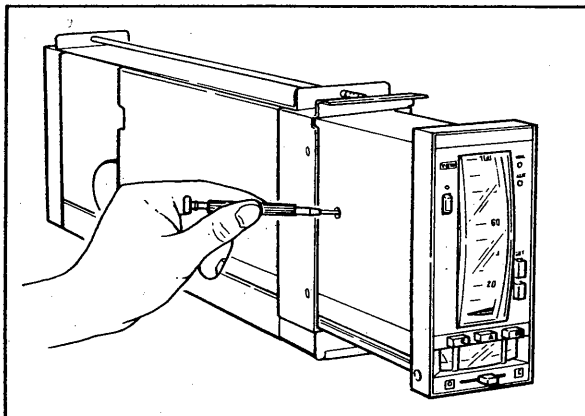

Figure 6-2-1. Zero Adjustment of Measurement Pointer.
- (1) Apply a voltage of 3.0 V DC to process variable input terminals X1 (terminals 1 (+) and 2 (—)) from the DC voltage/current standard.
- (2) Check that the measurement pointer indicates  $50\% \pm 0.5\%$  of the calibration mark on the scale plate.
- (3) If the reading is not in this range, rotate the zero adjustment screw to point to 50%, as shown in Figure 6-2-1.
- (4) Change the input signal to 1.0 V, 2.0 V, 4.0 V, and 5.0 V DC, and check that the readings are at 0%, 25%, 75%, and 100% calibration marks respectively. The tolerance is  $\pm 0.5\%$  of span. Check each calibration mark at the position where line of sight and set point value indicator are horizontal.
- (5) If the tolerance is exceeded in (4), apply 3.0 V DC again and make fine adjustments with the reading to fit in the range  $50\% \pm 0.5\%$ .
- (6) Repeat (4) and (5) until the readings at all input points are held within the tolerance.